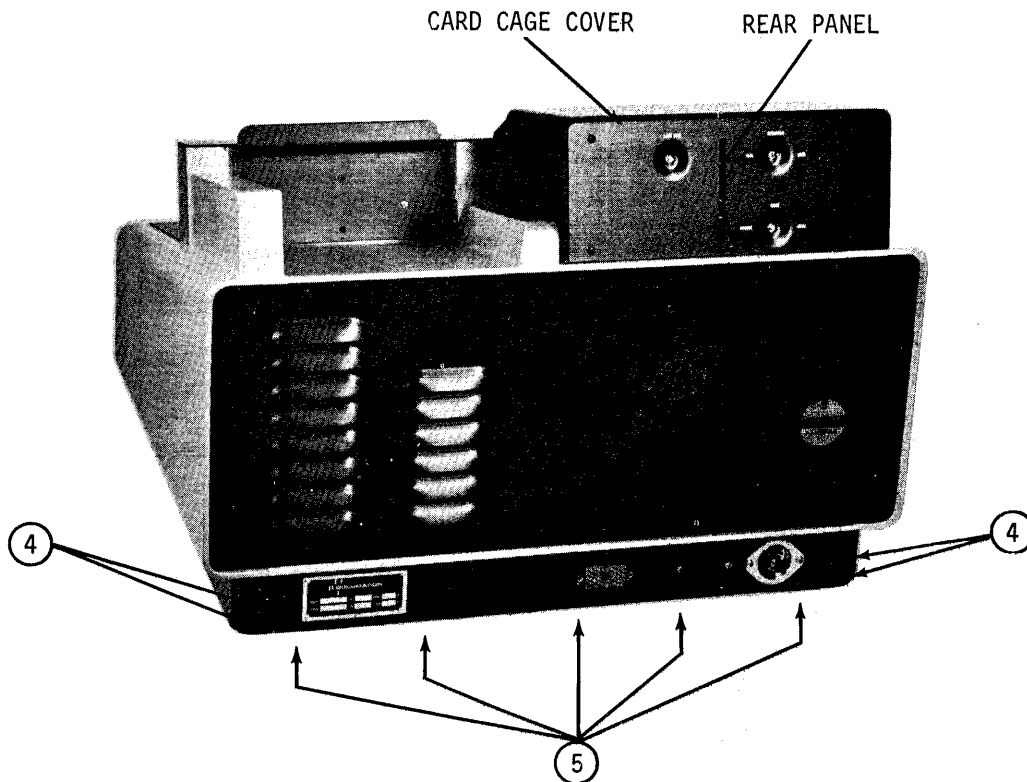

Figure 6-15. Removal of Rear Subframe Panel
- b. Remove five Phillips head screws from the bottom of the baseplate retaining the rear subframe panel, figure 6-15.